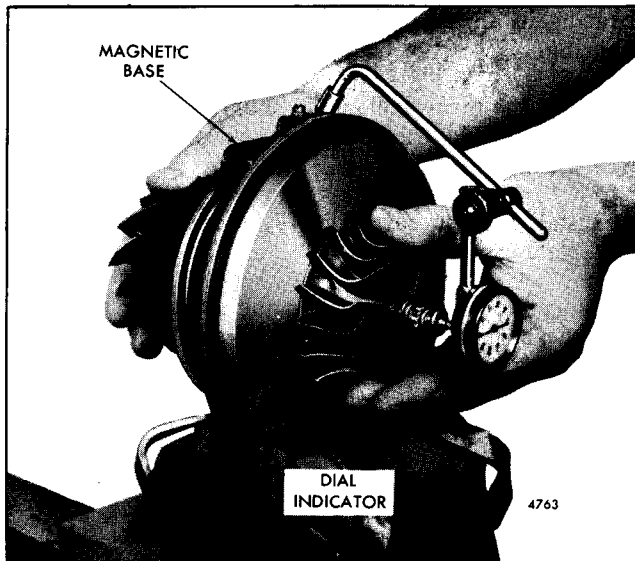

Fig. 9 - Checking Bearing Axial End Play
- a. Clamp the center housing assembly in a bench vise equipped with soft jaws as shown in Fig. 9.